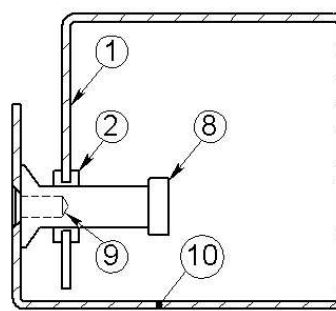
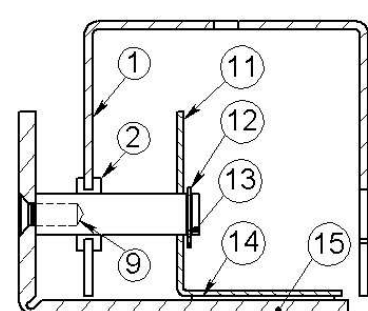

Figure 3B.
Figure 3C.
- Sheet metal (Figure 3B) or composite (Figure 3C) (aluminum, steel) cassettes;